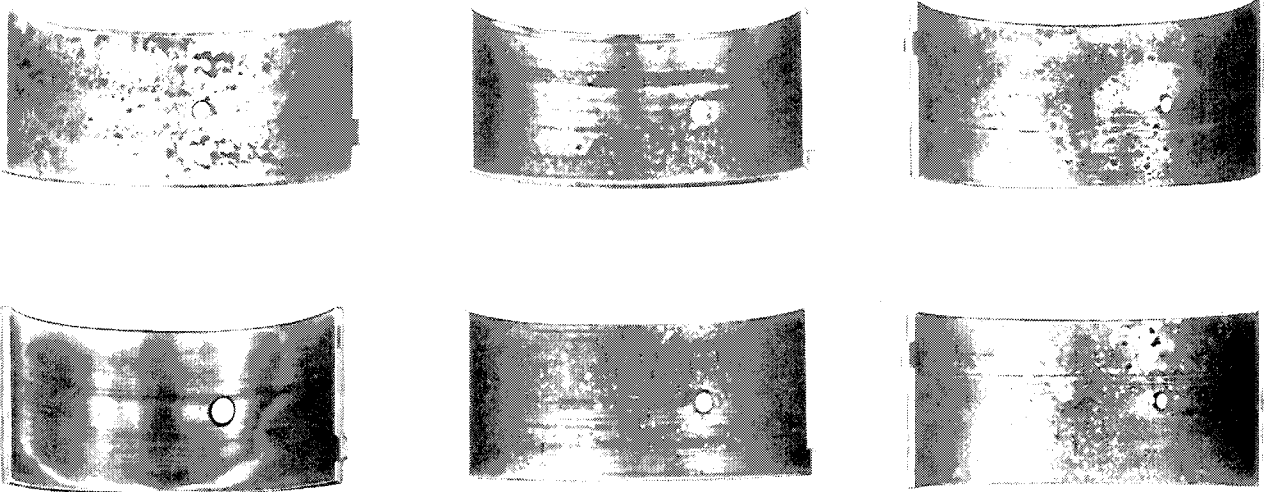

Figure 41
1. If the bearing liners are scored, have the flash overlay wiped out, show fatigue failure, or are badly scratched, as shown in Figure 41, install new bearing liners.